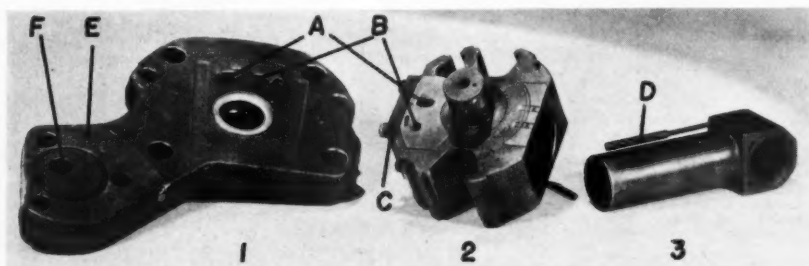

FIG. 4.—THE THREE PRINCIPAL PARTS OF THE COMPRESSOR.
Fig. 4 shows these three parts as they will appear when removed, which permits an explanation of the operation of the compressor. As mentioned before, the cylinder oscillates with the motion of the piston. This oscillating action is utilized to operate sliding valve ports between the valve plate and cylinder block. The suction gas enters at the opening (F) in the valve plate and travels through a connecting opening to the valve port (A). Movement of the cylinder block opens and closes this port at the desired time. A close-fitting polished surface between the two prevents any undue leakage of the valve. The discharge valve is of the disc flapper type, and is contained in the cage on the cylinder block shown at (C).